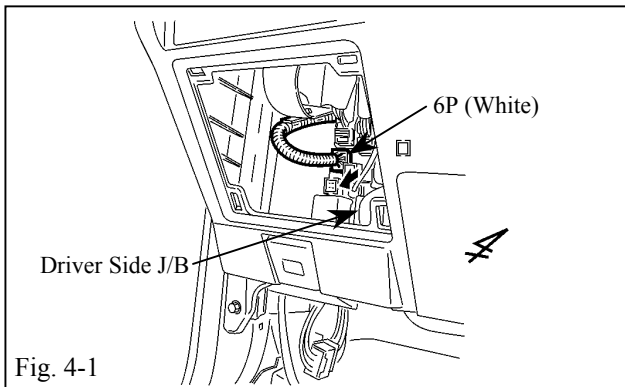

Fig. 4-1
- (a) From the fuse box opening, locate and disconnect the white 6P connector from the left side of the driver side J/B. (Fig. 4-1)